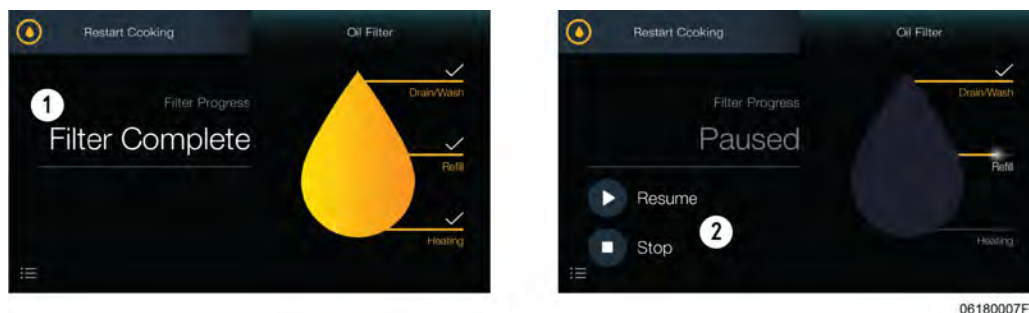

Figure 4-16
- 6) Once heated, **Filter Complete** displays followed by the cooking screen, see (1) Figure 4-16 , page 31.
Team members have the option to pause each step, followed by either resuming the step of stopping the Express Filter, see (2) Figure 4-16 , page 31.